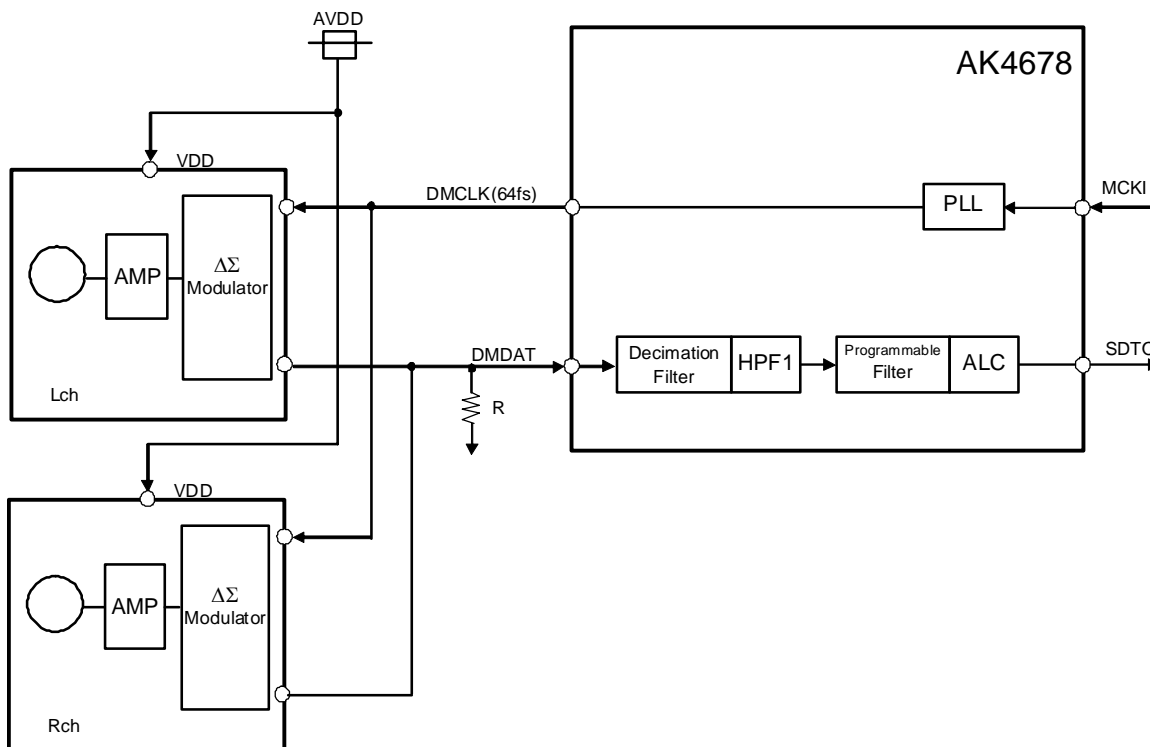
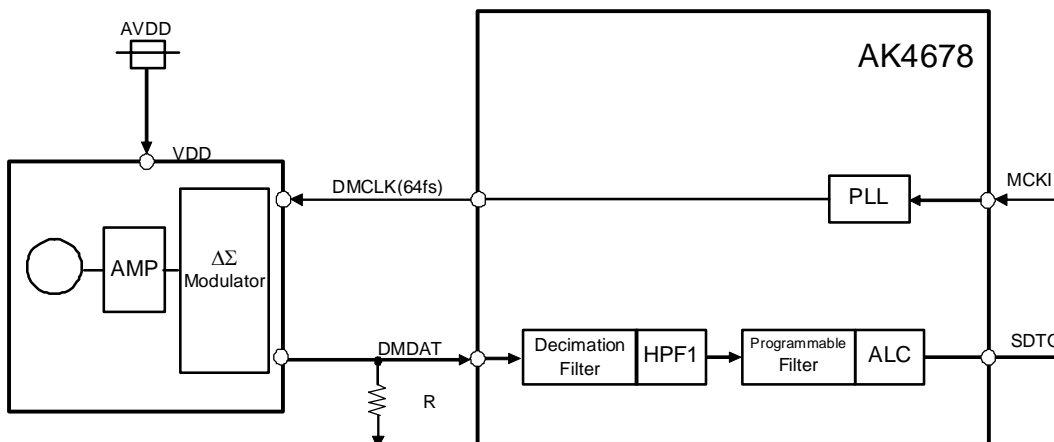

Figure 46. Connection Example of Stereo Digital MIC
Figure 47. Connection Example of Mono Digital MIC
The AK4678 can be connected to digital microphone by setting DMIC bit = "1". When DMIC bit is set to "1", the LIN1 and RIN1 pins become DMDAT (digital microphone data input) and DMCLK (digital microphone clock supply) pins respectively. The same power supply as AVDD must be provided to the digital microphone. The Figure 46 and Figure 47 show mono/stereo connection examples. The DMCLK signal is output from the AK4678, and the digital microphone outputs 1bit data, which generated by $\Delta\Sigma$ Modulator, from DMDAT. PMDML/R bits control power up/down of the digital block (Decimation Filter and HPF1). PMADL/PMADR bits settings do not affect the digital microphone power management. The DCLKE bit controls ON/OFF of the output clock from the DMCLK pin. When the AK4678 is powered down (PDN pin="L"), the DMCLK and DMDAT pins are pulled-down by internal 2.7k Ω (typ.) resistor. However, when the AK4678 is powered-up (PDN pin = "H"), path of the internal pulled-down resistor is OFF. Therefore, external pull-down resistor(R) should be connected to the DMDAT pin to avoid floating state.